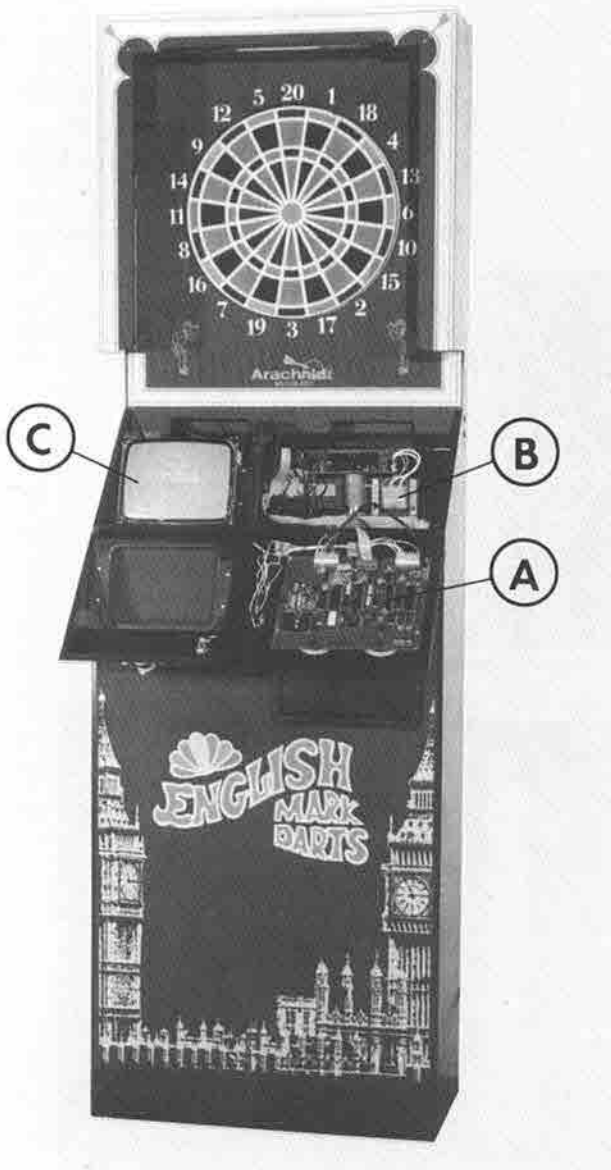
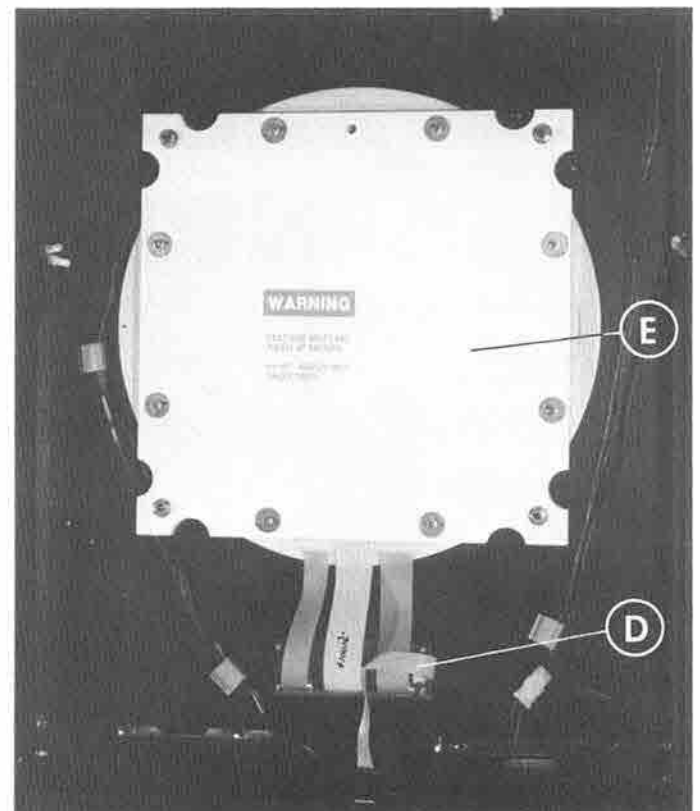

Figure 8. Front view of 6000 series game
Figure 9. Rear view of 6000 series game
Figure 8 and Figure 9 show the main components of the game.
The assembly containing the main board, monitor, and power supply is designed for easy access as shown in Fig. 8. Most service can be performed by swinging the front door open. However, if desired, the component tray can be removed entirely by unscrewing three screws in the bottom of the tray, disconnecting target lamp wires (3), ribbon cable, and coin harness. This way the unit can be bench tested by attaching a dart head w/target interface, a low wattage (40W) lamp, and switches to simulate the coin in, test, and reset.